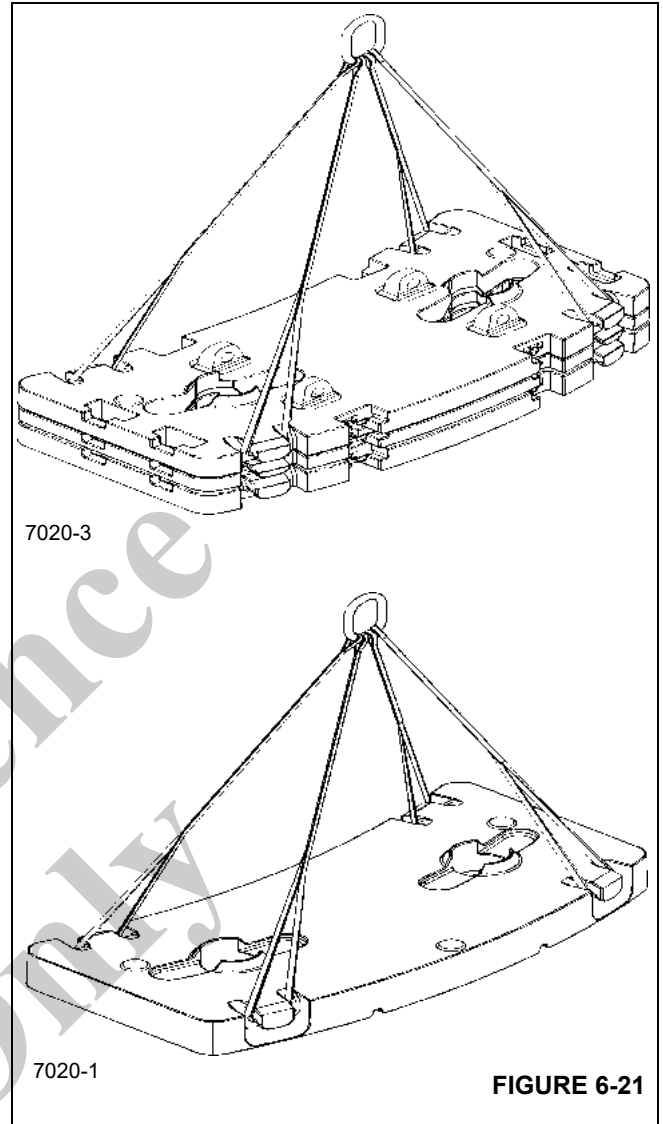
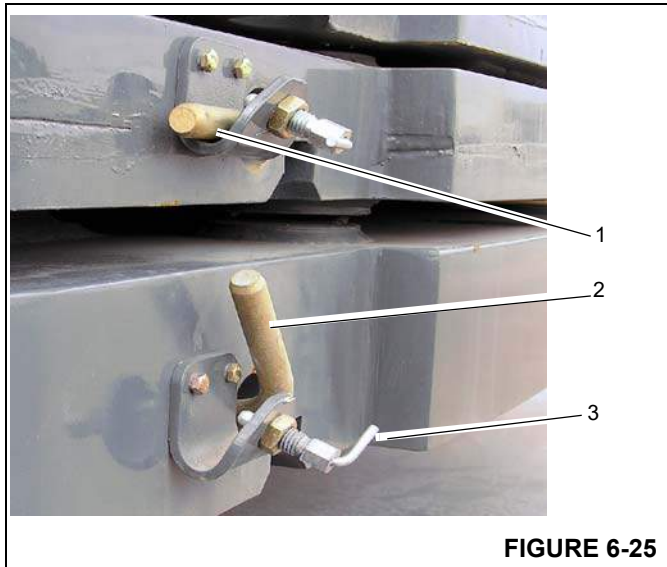

FIGURE 6-21
FIGURE 6-25
The 3,000 lb and two 5,000 lb counterweights can be combined and lifted as shown in (Figure 6-21). Make sure that all locking pins are in the locked position as shown in (Figure 6-25). Place the sling straps on the top counterweight.
When lifting the 3000 lb and 5000 lb counterweights, make sure that ALL locking pins are completely installed in the lock position (Figure 6-25) before lifting the counterweight sections on and off of the crane.
The 10,000 lb counterweight section can be lifted as shown in (Figure 6-21). Do not lift this plate with the 3,000 lb, two 5,000 lb sections or with the 3,000 lb tray. Lift each 10,000 lb plate separately.
When lifting the 3000 lb and 5000 lb counterweights, ensure ALL locking pins are completely installed in the lock position (Figure 6-25) before lifting the counterweight sections on and off of the crane. DO NOT leave the locking pins in the unlocked position while lifting the counterweight sections on and off of the crane. This ensures the counterweight sections are properly locked together when lifting the 3000 lb and 5000 lb sections at the same time. This also ensures that the locking pins do not contact the boom rest or other objects in the work area and become entangled.
The locking pins (Figure 6-25) are shown in both the Locked (1) and Unlocked (2) position. To place the pin in the Unlocked position, disengage the spring-loaded retainer pin (3), (Figure 6-25). Rotate and remove the locking pin from the holder.
5. The 3,000 lb and two 5,000 lb counterweight plates can be secured to the turntable. To do this, assemble the 3,000 lb counterweight plate, the two 5,000 lb counterweight plates, the two 10,000 lb counterweight plates, and the 3,000 lb counterweight tray onto the counterweight platform according to (Figure 6-19). Move the turntable into position and raise the counterweight assembly with the counterweight hoisting unit. Secure the top counterweight plate (3,000 lb or 5,000 lb) to the turntable with the two bolt pins (1), (Figure 6-26). Place the bolt pins through the two mounting brackets (2), (Figure 6-26) and rotate the role pins (3), (Figure 6-26) into the slots on the mounting bracket. Make sure that all the locking pins (4), (Figure 6-26) are in the locked position as shown in (Figure 6-25).